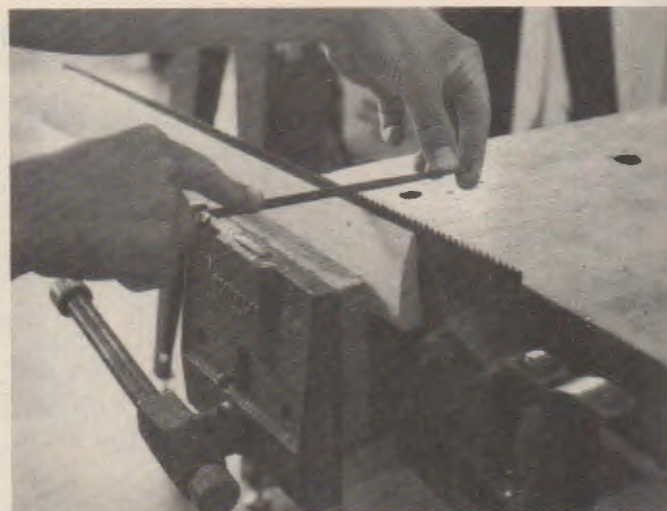

Fig. 22-34. File all teeth to the proper angle. Hold the file at 90° to the saw.
4. Filing the teeth. Place a file horizontally against the back of one tooth and the front of the next tooth. Hold the file at 90° to the blade, Fig. 22-34. File between the teeth only until the shiny flat spot on the tip of the tooth (from jointing) is gone. Try to make the same number of strokes between each of the teeth. When finished, inspect the blade. All teeth should be equally sharp and the same size.